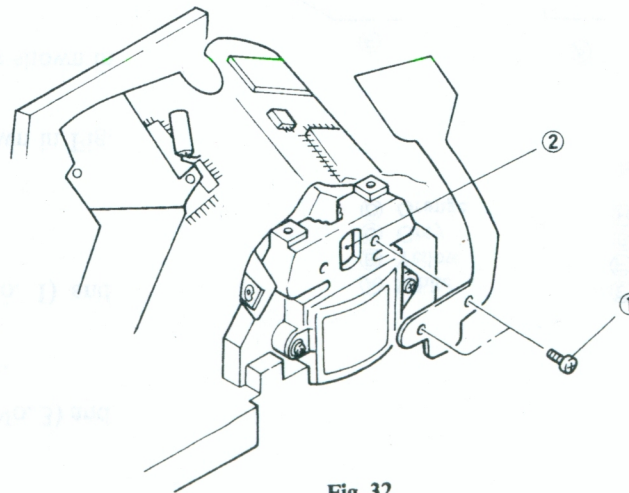

Fig. 32
- 11) Insert the SPD in the SPD WINDOW (No. 2) shown in Fig. 32 and tighten two SCREWS (No. 1).